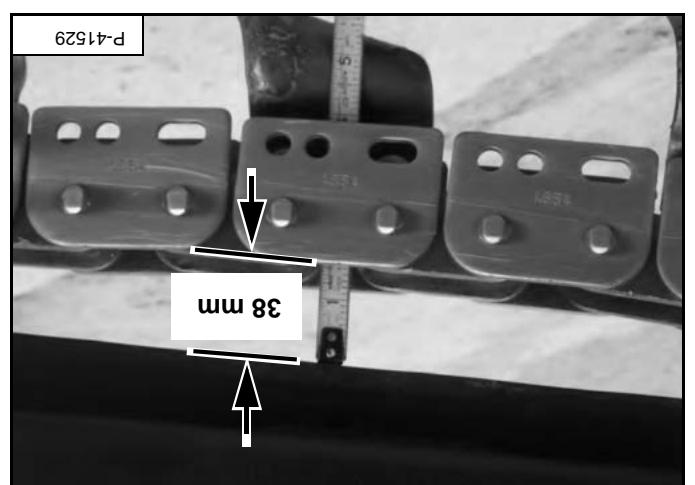
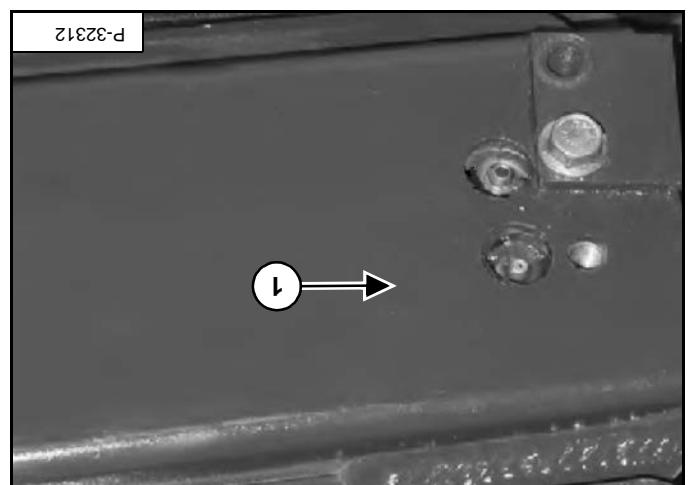

Figure PM-24
Figure PM-23
Add grease to the fitting (item 1) [Figure PM-23] until there is 38 mm clearance between the bottom of the chain guide and the top of the chain [Figure PM-24].